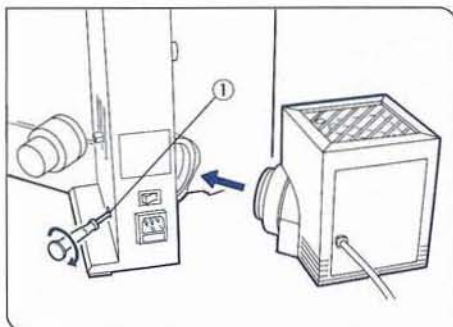

Fig. 4
1. Using the Allen (hex) driver, fully loosen the lamp housing clamping screw ① on the side of the microscope. (Fig. 4)